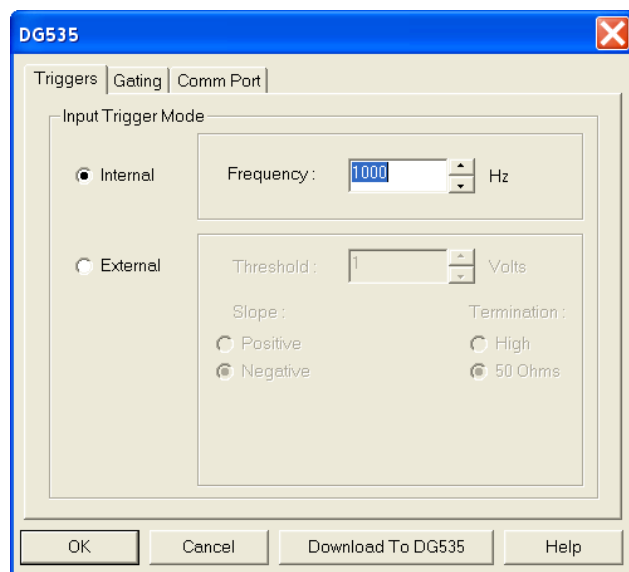

Figure 169. DG535/Triggers tab
8. Click on the **Triggers** tab (Figure 169).